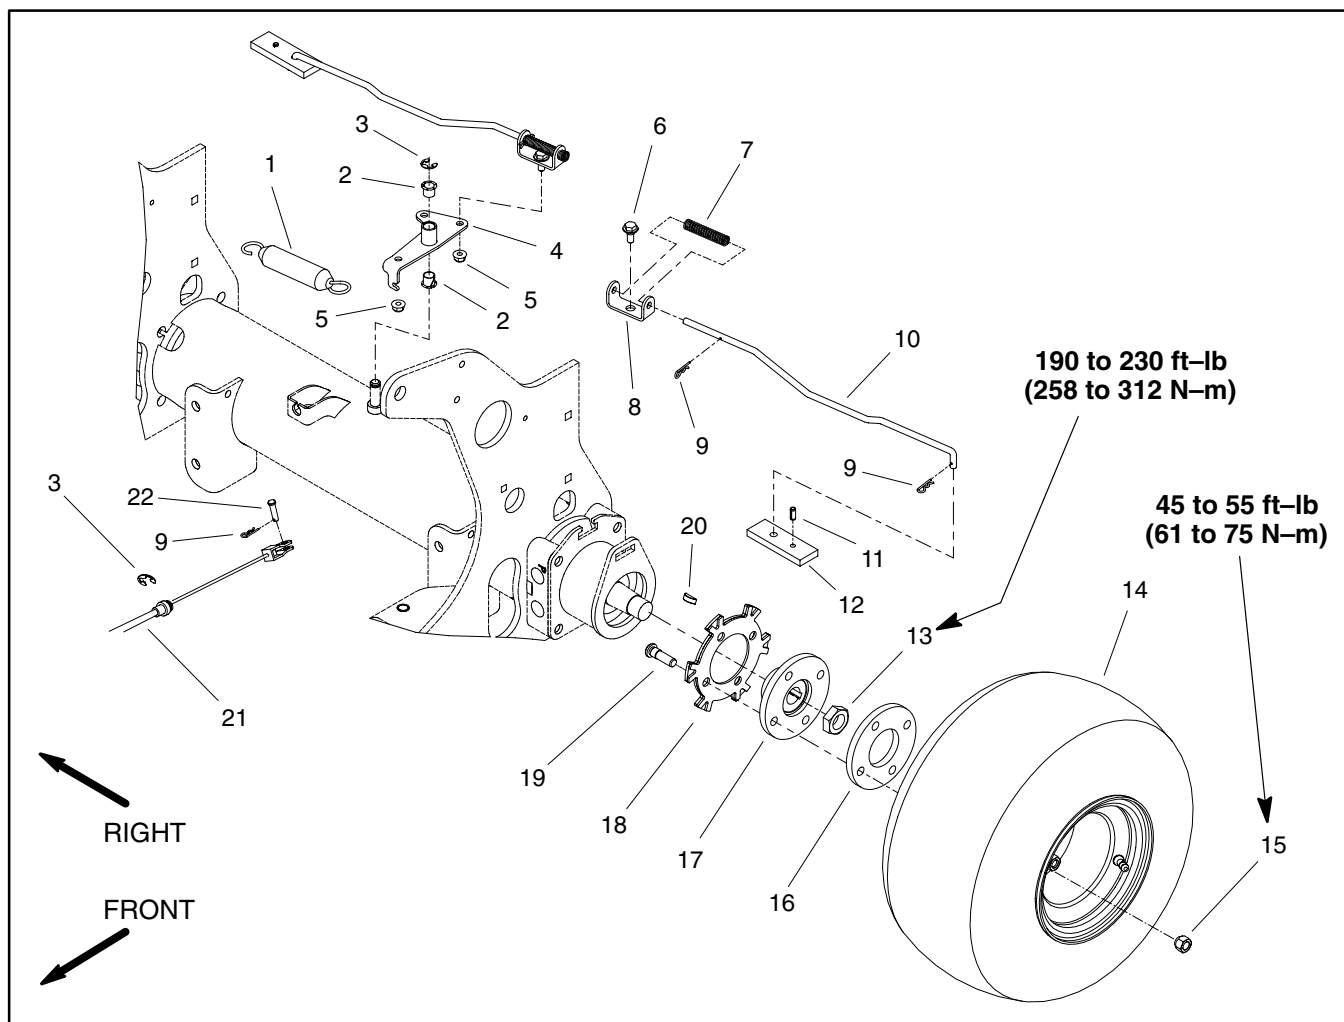

Figure 4
Removal (Fig. 4)
5. Remove parking brake components as needed using Figure 4 as a guide.
Installation (Fig. 4)
1. Install removed parking brake components using Figure 4 as a guide.